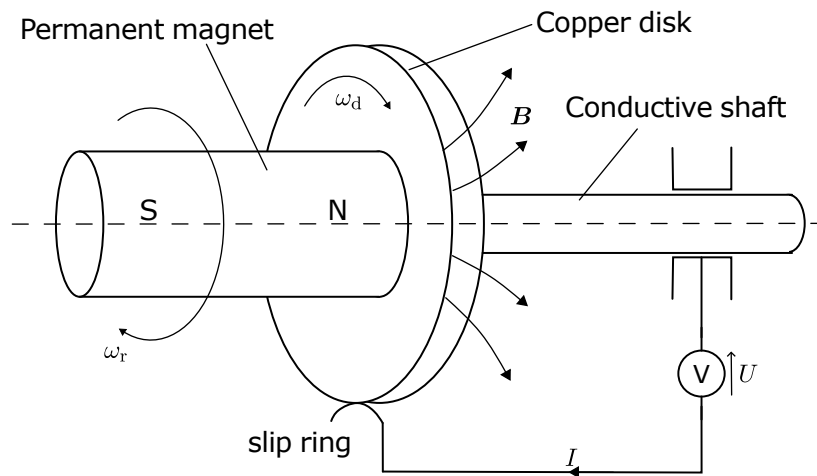

Figure 1: Faraday's disk (rotating copper disk in a homogenous magnetic field)
1.1 The disc from Fig. 1 has a diameter of  $d = 60$  cm and is rotating with the circumferential speed  $v_d = 100 \frac{\text{m}}{\text{s}}$ . What is the rotational speed and angular velocity of the copper disk? [2 Points]